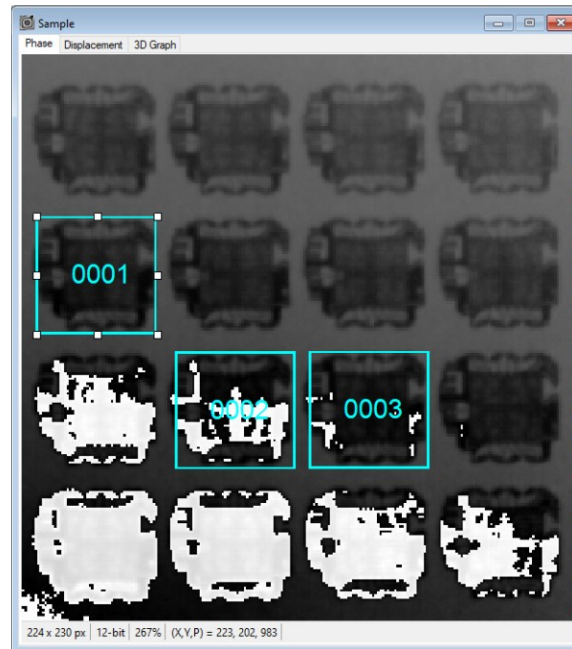

Figure 3.27 Multiple Regions on One Phase Image
- Additional regions can be added to the partition (**Figure 3.27**) by repeating steps 1 through 3. Regions may overlap.